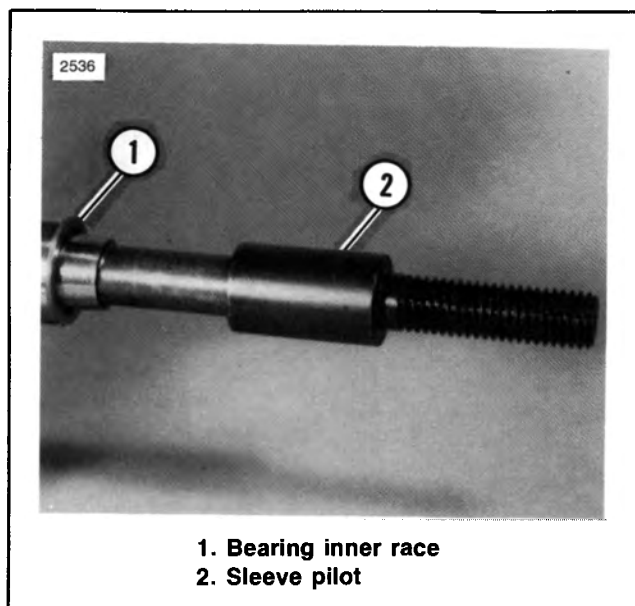

Figure 7-21. Installation Tool Mounting
15. See Figures 7-21, 7-22. When assembling 1985 and later belt drive transmissions, the bearing race must be positioned on the shaft a precise distance to properly align with the bearing outer race in the primary chaincase. To install the bearing inner race, use the combination bearing race; PULLER AND INSTALLATION TOOL, Part No. HD-34902.
- a. Measure the length of the bearing inner race. Early 1985 models used a race 0.8075 - 0.8125 in. long. Later models have a race 0.9950 - 1.000 in. long. Record the length as it determines the race's position in step 'e'. Slide bearing inner race (1), chamfer edge first, onto mainshaft.